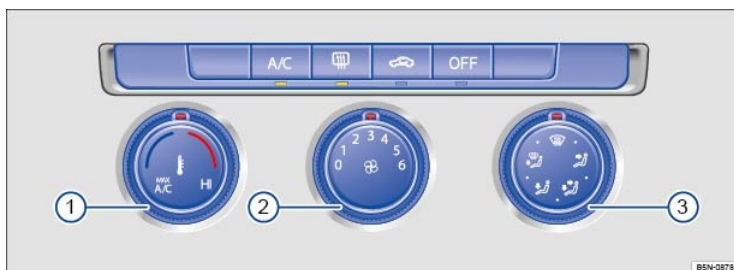
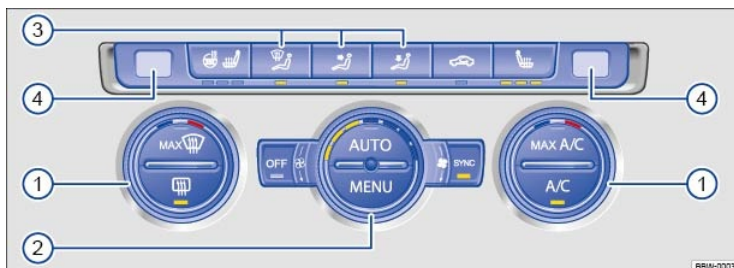

Fig. 104 In the center console: Manual controls.
Fig. 105 In the center console: Climatronic controls (may vary depending on equipment).
Press the **MENU** button in the Climatronic controls ⇒ Fig. 105② to open the air conditioning settings in the Infotainment system. Tap the corresponding function key switch a function on or off, or to select a submenu.
- **OR: Manual air conditioning:** Turn the fan knob to **0** ⇒ Fig. 104②.
- **Climatronic:** Turn the fan knob as far left as it will go ⇒ Fig. 105②
- *Manual air conditioning:* Turn the temperature knob  $\Rightarrow$  Fig. 104① all the way to the left (**MAX A/C** position).
- *Manual air conditioning:* Turn the temperature knob  $\Rightarrow$  Fig. 104① to set the temperature.
- *Climatronic:* Turn the outside knobs  $\Rightarrow$  Fig. 105① to set different temperatures for the driver and passenger sides. The displays above the knobs ④ show the set temperature.
Turn the middle knob  $\Rightarrow$  Fig. 104② or  $\Rightarrow$  Fig. 105② to adjust the fan speed.
- *Manual air conditioning:* Turn the knob  $\Rightarrow$  Fig. 104③ to direct air flow in the desired direction.
- *Climatronic:* Press the buttons  $\Rightarrow$  Fig. 105③ to direct air flow in the desired direction. When automatic regulation (**AUTO**) is switched on, air flow is automatically adjusted to a comfortable level.
*Manual air conditioning:* Turn the right knob to position   $\Rightarrow$  Fig. 104③ to defrost the windshield as quickly as possible. The cooling system switches on automatically to dehumidify the air. When the defrost function is switched on, the air recirculation mode cannot be switched on.
*Climatronic:* Press the **MAX**  button  $\Rightarrow$  Fig. 105① to defrost the windshield as quickly as possible. The incoming outside air is directed to the windshield, and air recirculation automatically switches off. Humidity is removed from the air at temperatures above about +38 °F (+3 °C), and the blower is set to a high speed.